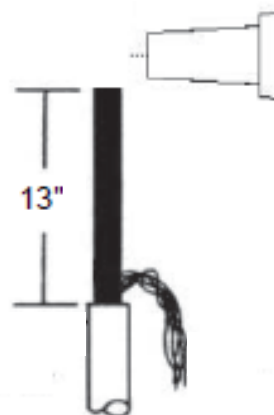

Fig. 2 - Cut Excess Cable
- A. Cut the excess cable off square 13" above jacket. (See Figure 2.)